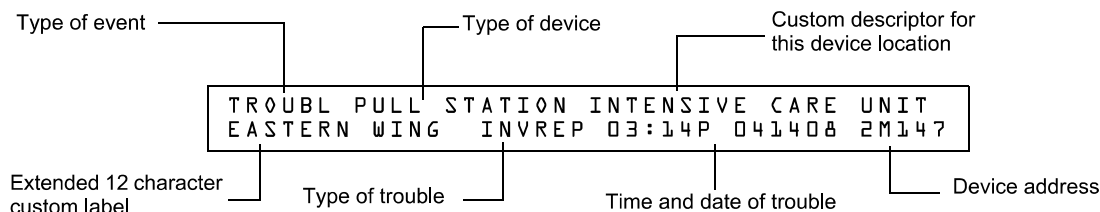

Figure 3.4 Sample Trouble Message
- Displays TROUBL in the status banner on the LCD display as well as the type of trouble and information specific to the device, as shown in Figure 3.4 below.